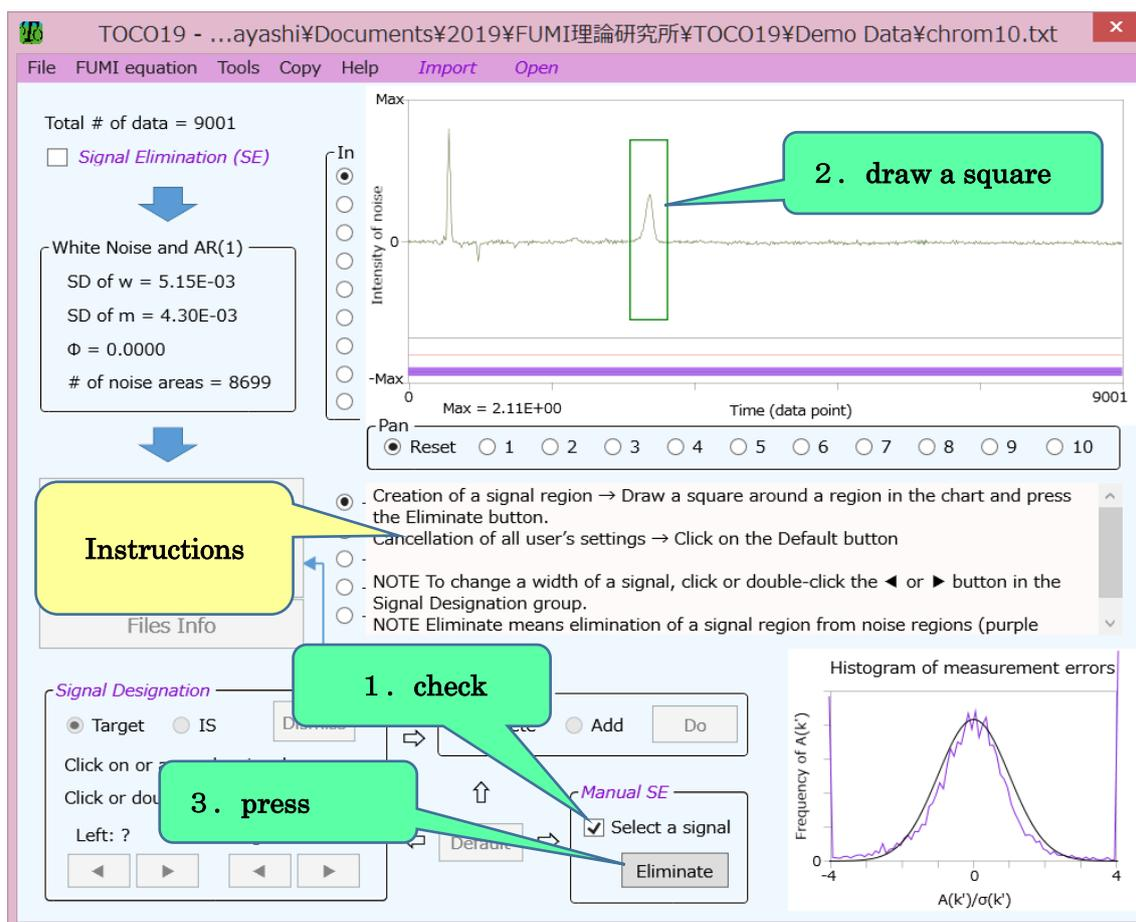

Figure 20 --- Main window (manual signal elimination)
The Manual SE group is used to set up a new signal region. The chart of Fig. 20 shows an example of data which are all recognized as noise by unchecking the Signal Elimination (SE) check box. If Signal Elimination (SE) is checked, automatic peak detection of TOCO19 is carried out. The procedures to set up a new peak region are
1. check  Select a signal of the Manual SE group (see Fig. 20);